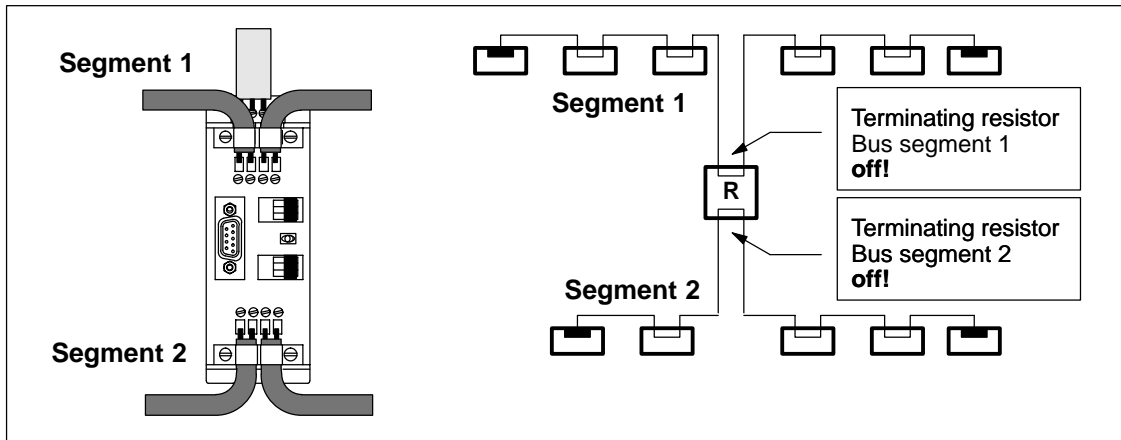

Figure 5-5 Connecting Two Bus Segments to the RS-485 Repeater
- Segment 1 and Segment 2 connected through on the RS-485 repeater (see Figure 5-5 )
Figure 5-5 shows the connection between two segments via an RS-485 repeater with each LAN cable connected through: